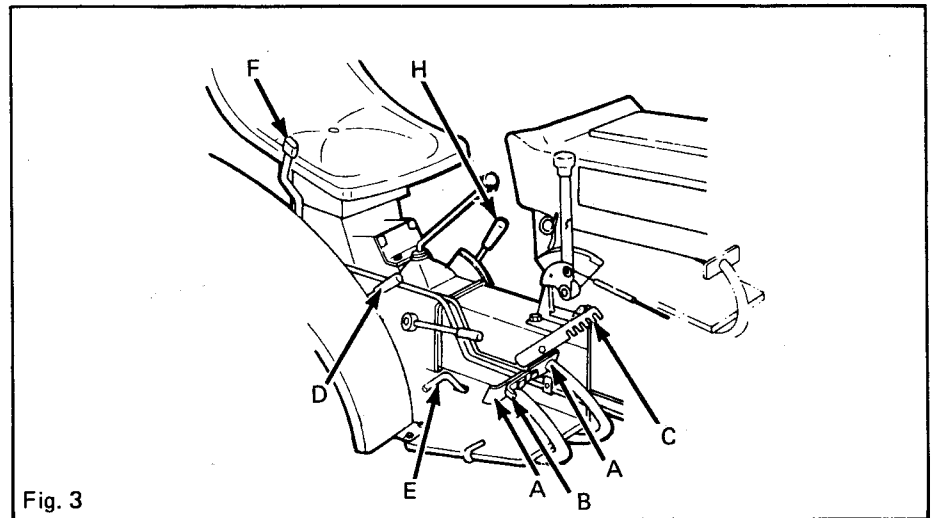

Fig. 3
Brake pedals (A) Figure 3. Depress to activate brakes. Brakes may be applied separately at low speed to aid in turning.
Parking brake lever (C) Figure 3. Lock brakes in engaged position by depressing brake pedals and pulling locking lever rearward. To hold tractor in stationary position, brake lock plate "B" must be engaged across pedals.
Four wheel drive (D) Figure 3 - is used to engage or disengage front axle drive system. Stop tractor, depress clutch to make selection. If lever cannot be moved into "Engage" position, move tractor forward or backward until shifter moves with minimum effort. If shifter does not move freely to "disengage", move tractor in direction opposite to previous motion to relieve "wind up" of gear train.
Differential lock (E) Figure 3, is used to overcome rear wheel slippage by locking the rear axles so they must rotate.
A. POSITION CONTROL LEVER (F) Figure 3 and 4 - Controls raising and lowering of 3-point hitch. To lower hitch move lever forward to desired height. An adjustable lever stop may be positioned against front of lever so implements can be returned to same height each time it is lowered. Moving lever completely forward allows implement to float independent of the tractor.
PTO CONTROL LEVER (H) Figure 3 - Controls 3 speed PTO. Depress clutch fully and let tractor movement stop before shifting. Speeds at 2700 engine RPM are: